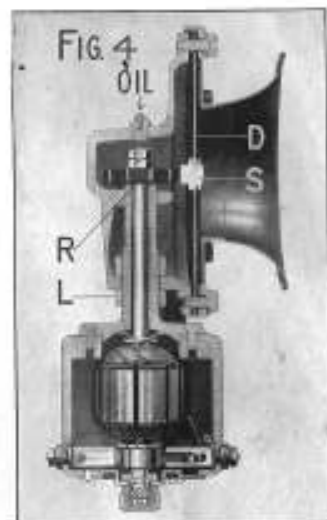

Fig. 5.
5. **ADJUSTMENT.**—First loosen the lock-nut by a spanner, as shown in Fig. 5. This lock-nut can also be seen at **L** in Fig. 4. Then, after lock-nut is loose, start the current by pressing push-button. In other words, sound the Klaxon.